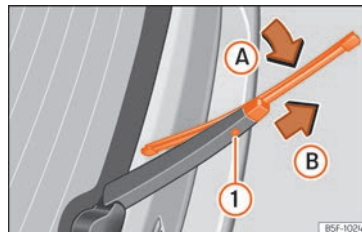

Fig. 42 Changing the rear wiper blade
- Turn the blade slightly » Fig. 42 (arrow ❸).
- Hold down the release button ❶ while gently pulling the blade in the direction of arrow ❷.
- Insert a new blade of the **same length and type** in the rear wiper arm in the opposite direction to the arrow ❷ and hook into place button ❶.